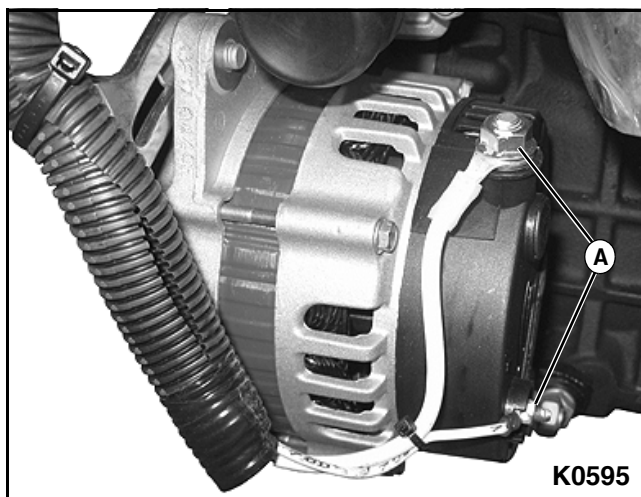

Figure 3-20
2. Disconnect all electrical connections (A) from alternator. **See Figure 3-20.**